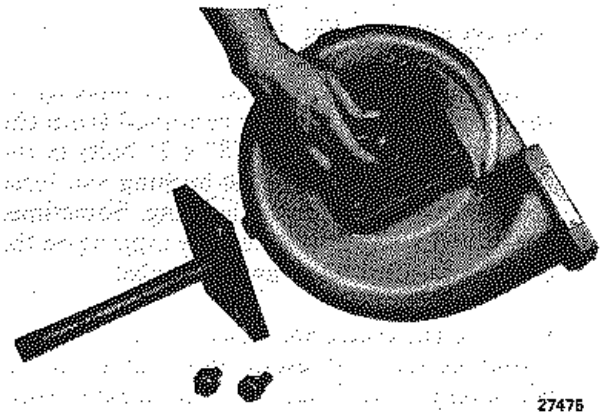

Fig. 10-7 - Disassembly Tool Application
5. Insert adapter for pump disassembly tool over impeller shaft end, Fig. 10-7, then mount disassembly tool to impeller housing with two 1/2-13 x 1-1/2" hex head bolts across from each other.